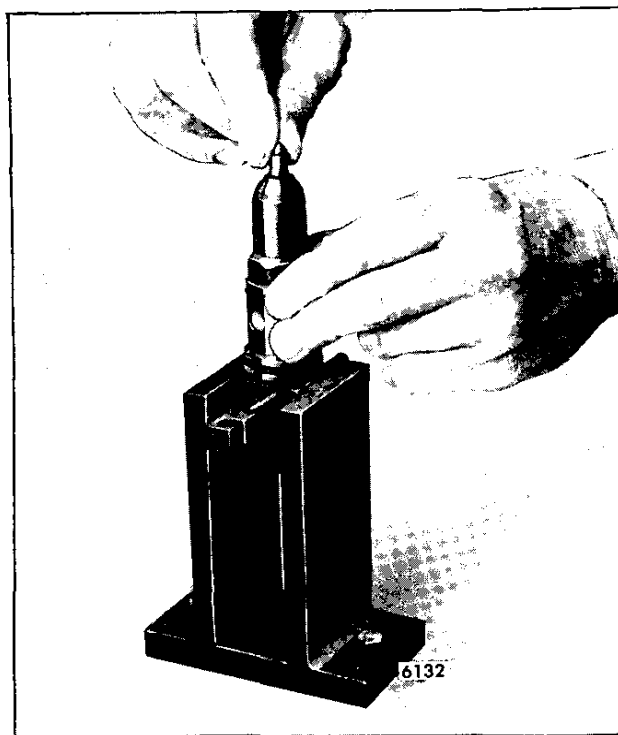

Fig. 16 - Tightening Injector Nut by Hand while Rotating Injector Spray Tip
7. Lubricate the threads in the injector nut with test oil and carefully thread the nut on the injector body by hand. Rotate the spray tip between your thumb and first finger (Fig. 16) while threading the nut on the injector body. Tighten the nut as tight as possible by hand. At this point there should be sufficient force on the spray tip to make it impossible to turn with your fingers.